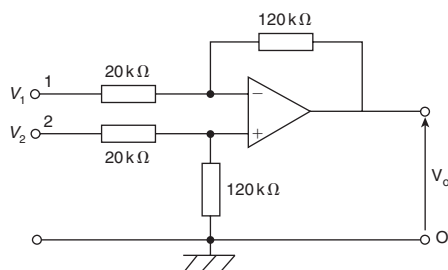

Figure RT5.1
- The power taken by a series inductive circuit when connected to a 100 V, 100 Hz supply is 250 W and the current is 5 A. Calculate (a) the resistance, (b) the impedance, (c) the reactance, (d) the power factor and (e) the phase angle between voltage and current. (9)
- A coil of resistance $20\ \Omega$ and inductance 200 mH is connected in parallel with a $4\ \mu\text{F}$ capacitor across a 50 V, variable frequency supply. Calculate (a) the resonant frequency, (b) the dynamic resistance, (c) the current at resonance and (d) the Q-factor at resonance. (10)
- A series circuit comprises a coil of resistance $30\ \Omega$ and inductance 50 mH, and a $2500\ \text{pF}$ capacitor. Determine the Q-factor of the circuit at resonance. (4)
- The winding of an electromagnet has an inductance of 110 mH and a resistance of $5.5\ \Omega$. When it is connected to a 110 V d.c. supply, calculate (a) the steady-state value of current flowing in the winding, (b) the time constant of the circuit, (c) the value of the induced e.m.f. after 0.01 s, (d) the time for the current to rise to 75 per cent of its final value and (e) the value of the current after 0.02 s. (11)
- A single-phase motor takes 30 A at a power factor of 0.65 lagging from a 300 V, 50 Hz supply. Calculate (a) the current taken by a capacitor connected in parallel with the motor to correct the power factor to unity and (b) the value of the supply current after power factor correction. (7)
- For the summing operational amplifier shown in Fig. RT5.1, determine the value of the output voltage, V_o . (3)